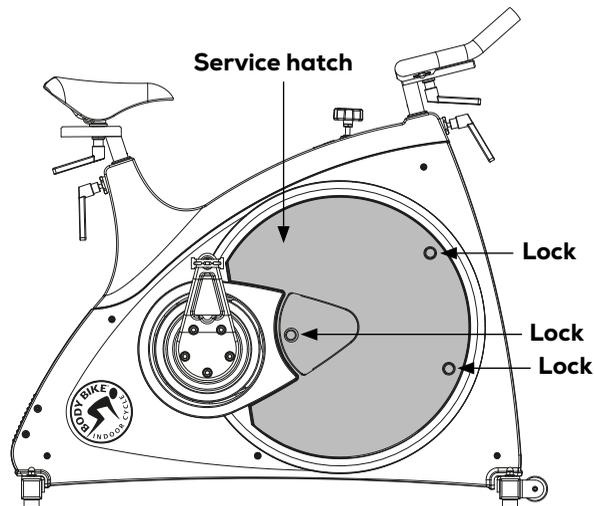
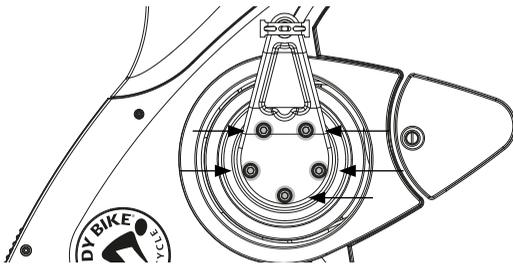

Figure 17
Figure 22
1) Remove the service hatch. See figure 17.
- 1) Remove both service hatches by loosening the locks with a coin, see figure 17.
1) Remove the service hatch on both sides of the cycle by loosening the three locks with a coin, see figure 17.
- 1) Dismount the right pedal arm with an 8mm Allen wrench. See figure 22. Remove hatch. See figure 17.